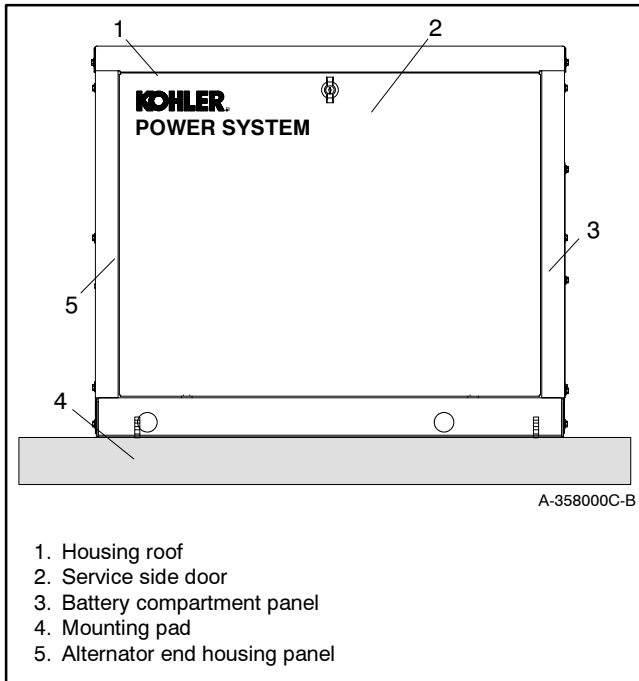
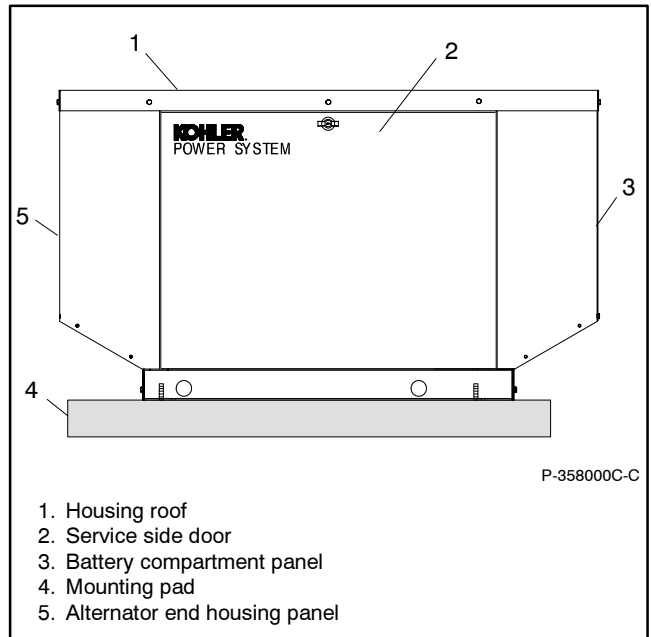

Figure 8-17 Generator Set Weather Housing
Figure 8-18 Generator Set Sound Enclosure
9. Reinstall the enclosure panels. See Figure 8-17 or Figure 8-18.